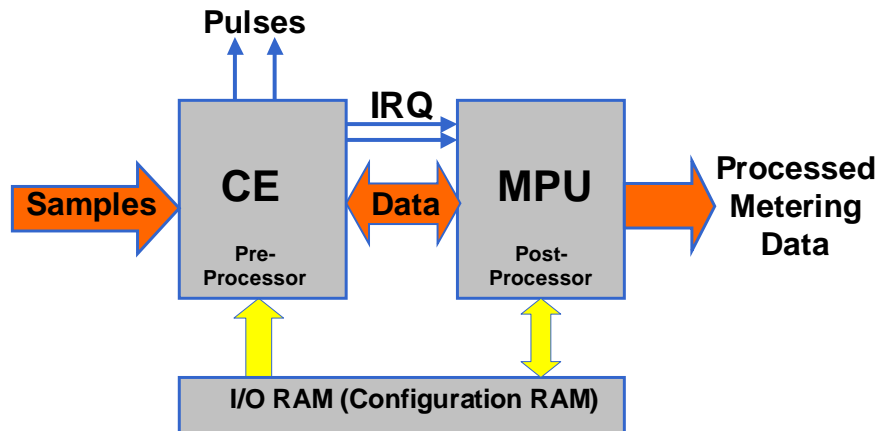

Figure 17: MPU/CE Data Flow
The data flow between CE and MPU is shown in Figure 17. In a typical application, the 32-bit compute engine (CE) sequentially processes the samples from the voltage inputs on pins IA, VA, and IB, performing calculations to measure active power (Wh), reactive power (VARh), A2h, and V2h for four-quadrant metering. These measurements are then accessed by the MPU, processed further and output using the peripheral devices available to the MPU.